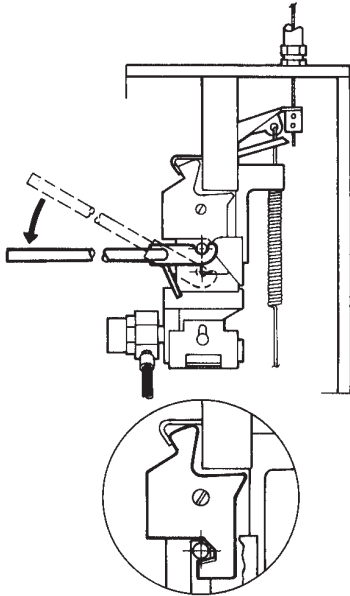

FIGURE 28
15. With a downward motion of the cocking lever, raise cocking pin until the trip lever indented surface moves underneath the pin and locks the pin in the “UP” position. See Figure 28.